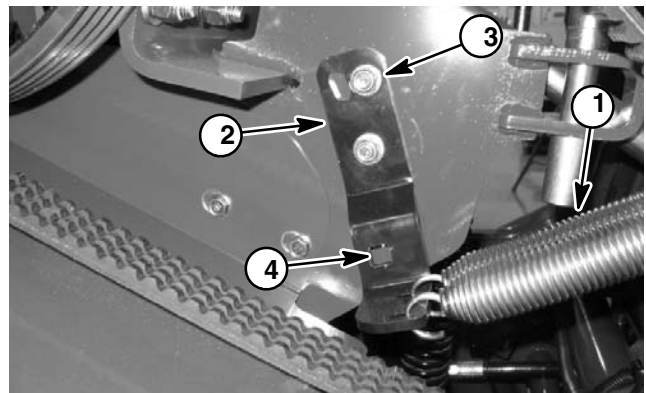

Figure 13
**NOTE:** If desired, extension spring tension can be removed from idler pulley by loosening two (2) flange nuts that secure spring arm to frame. Use 1/2" drive breaker bar inserted into spring arm to hold arm, remove upper carriage screw and flange nut and rotate spring arm to relax spring (Fig. 13).